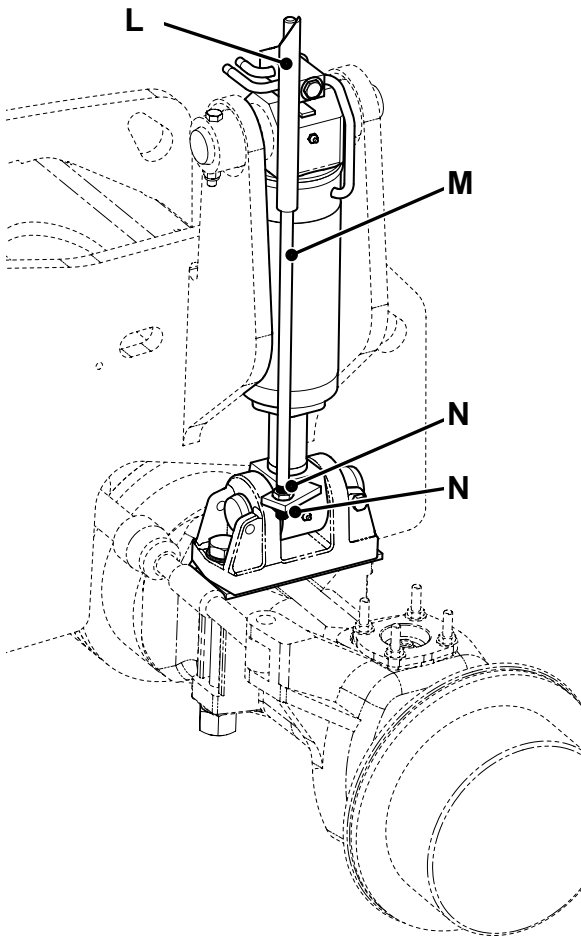

Fig 4.
- Adjust the sway sight rod **M** so that the top of the rod is in line with the top of the tube **L** when the machine is horizontal. To adjust this slacken the locknuts **N** and screw the sight rod up or down to the correct position. Tighten the locknuts when the position is correct. → Fig 4. \(□ F3-10\)